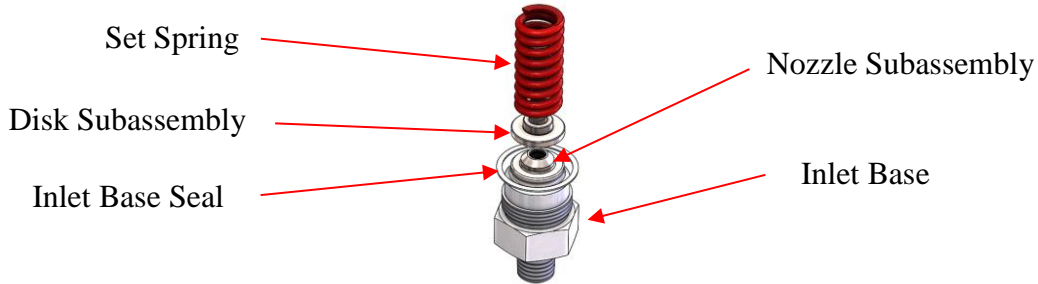

Figure 13: Inlet Base Components
6. Remove the set spring and discard the disk subassembly. See Figure 13.
7. Remove and discard the inlet base seal. See Figure 13.